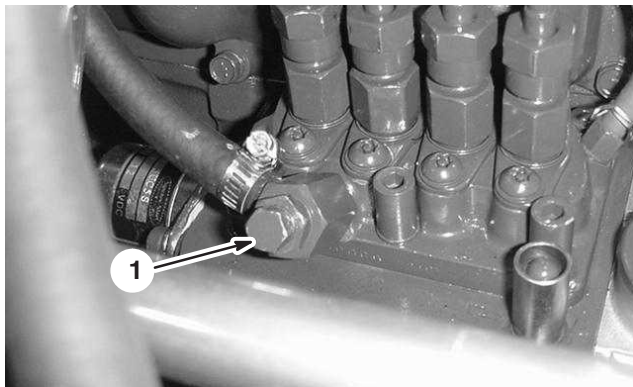

Figure 15
- Open the air bleed screw on the fuel injection pump (Fig. 15).